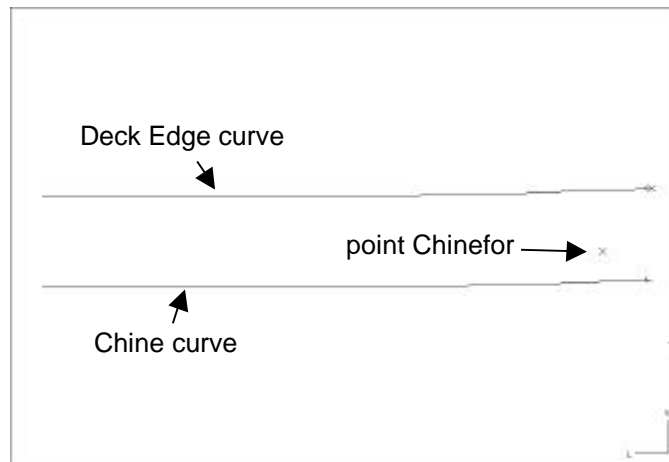

Figure 1-6: Chine curve moved down
3. In the **Move Selection** dialogue, for **V** enter **-1.3** and click on **OK**. (See figure 1-6.)